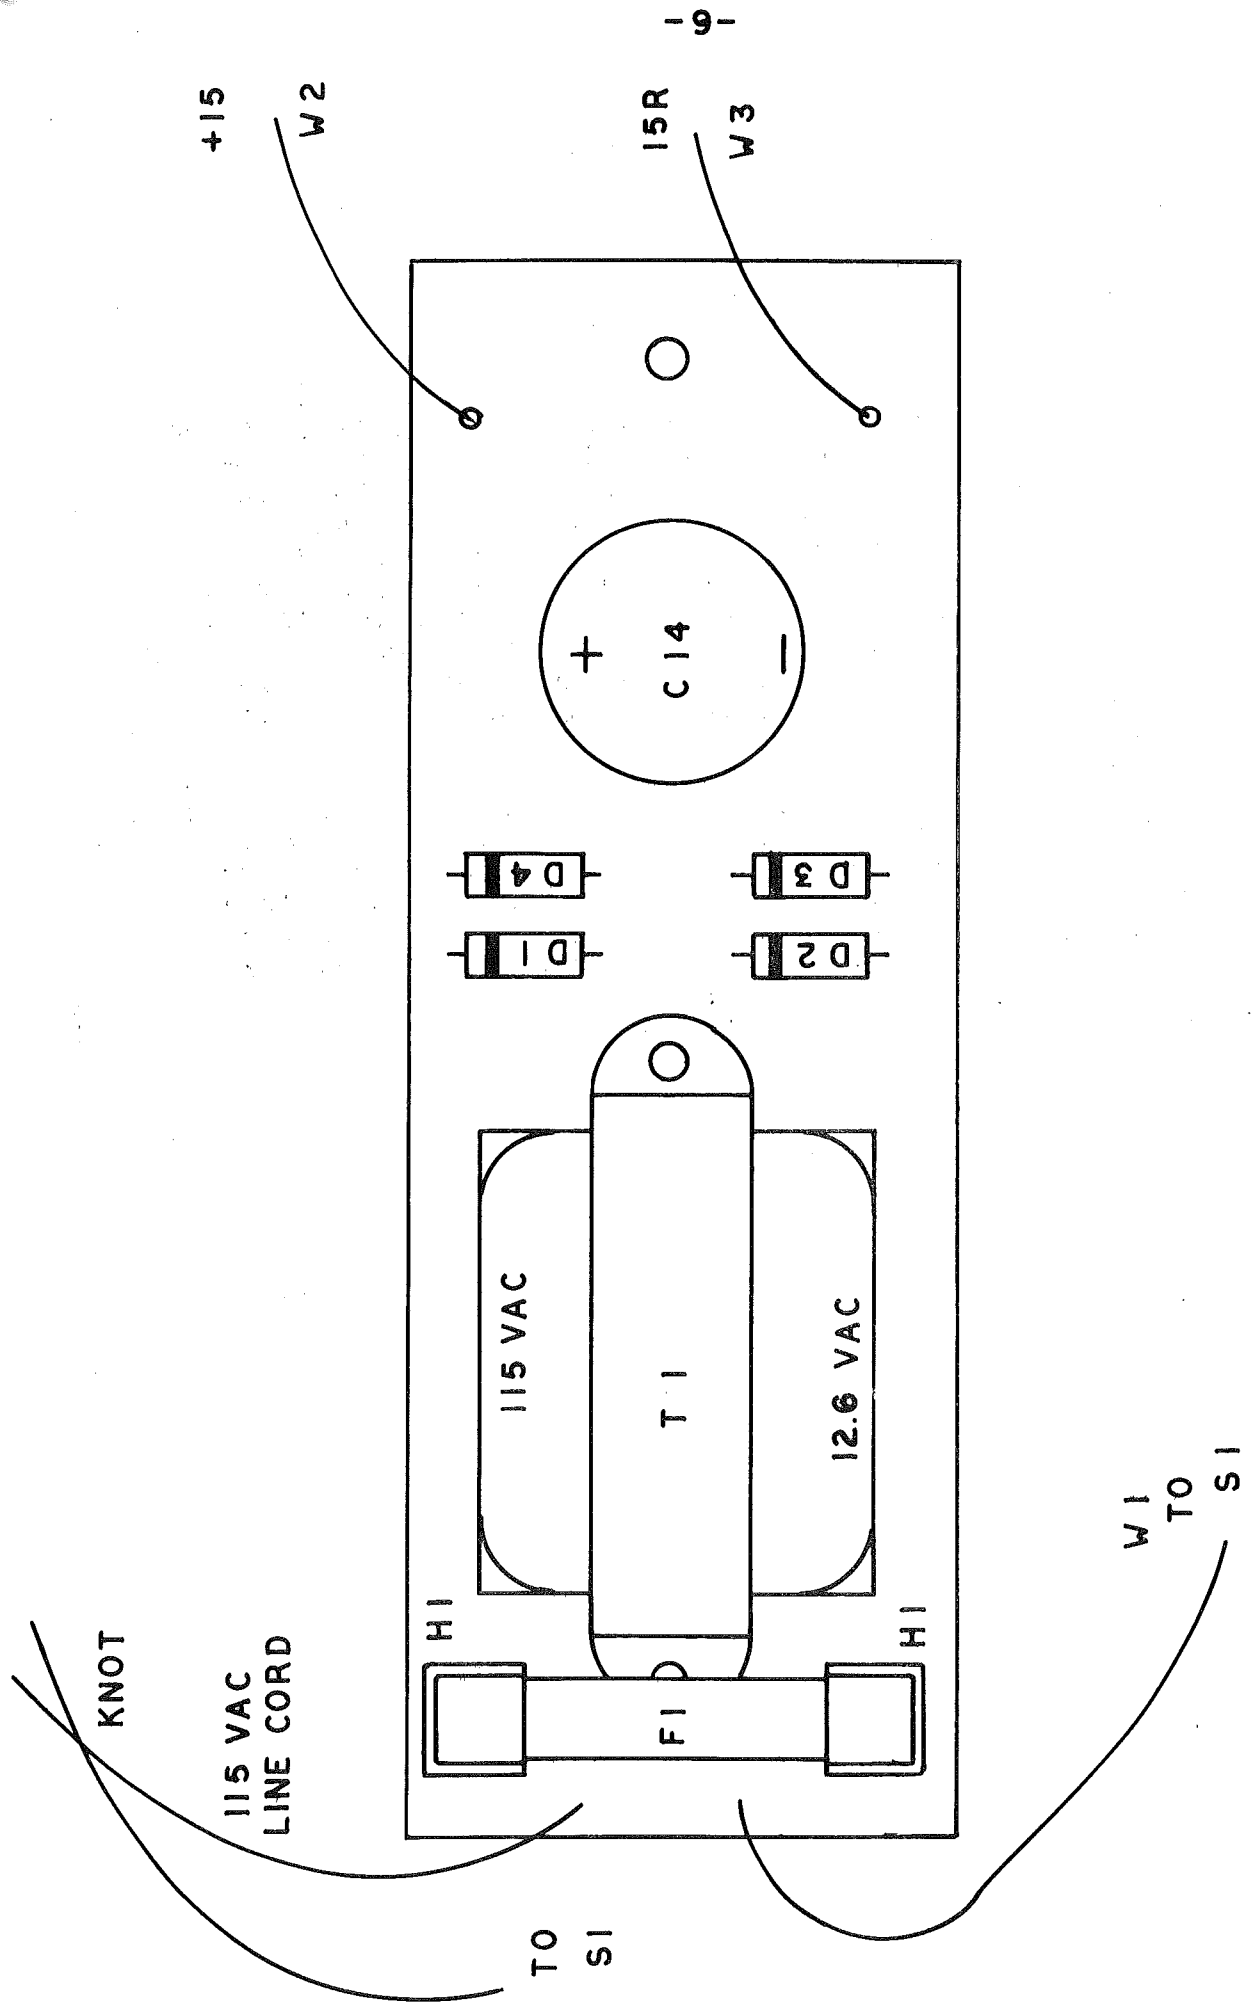

FIGURE 2
- 1.0 In the following steps do not solder the components into place. (Refer to figure 2).
- 1.3 Note; before soldering make sure that the band located on each diode agrees with the pictorial in figure 2. Also, the polarity of these capacitors must be observed carefully. Solder and cut the remaining leads. ()
- 2.0 Install T1 making sure that the 115 VAC input side is oriented as shown in figure 2. Caution should be exercised in positioning the transformer terminals into the printed circuit board holes since excessive bending of the terminals can break the fine wires connected to them. ()
- 1.4 Connect the oscilloscope between the 15R and +15v position (figure 2). Set the vertical sensitivity switch for 1v/cm. ()